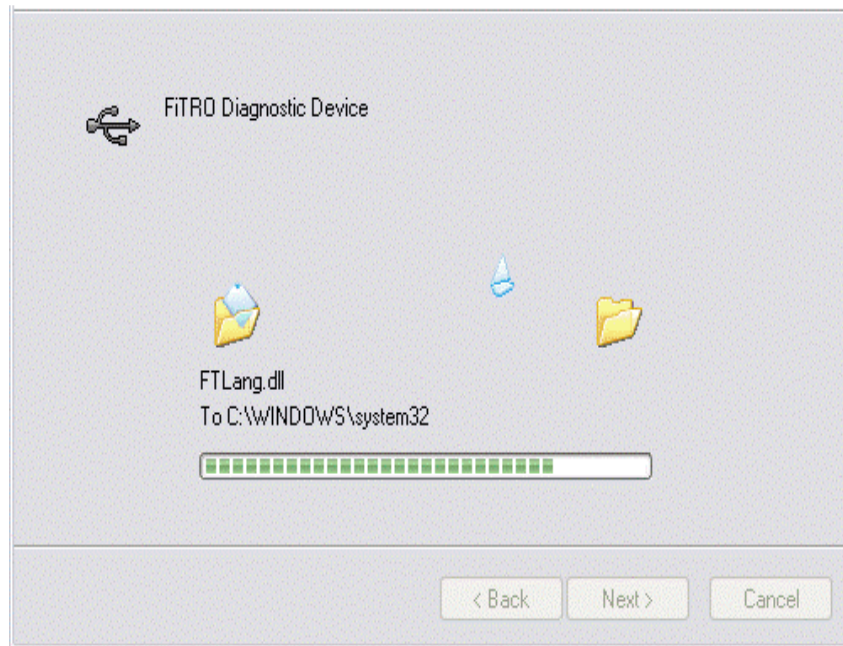

Figure 5
- The screen shown in Figure 5 will be displayed as Windows XP copies the required driver files.